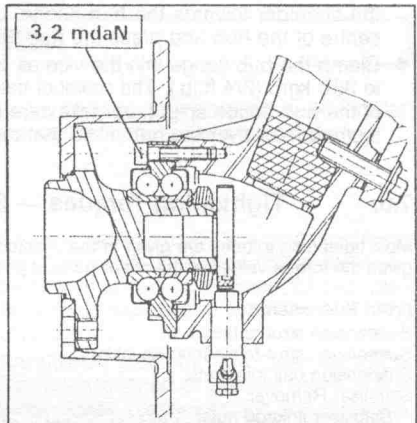

Fig. 7.10. — The wheel hubs are attached by five bolts to the suspension arm and can be removed without any problems. Note the tightening torque.
- With an Allen key remove the wheel hub bolts through the openings in the hub flange. The flange must be rotated as required to remove the five bolts. Fig. 7.10 shows how the wheel hub is attached to the suspension arm.